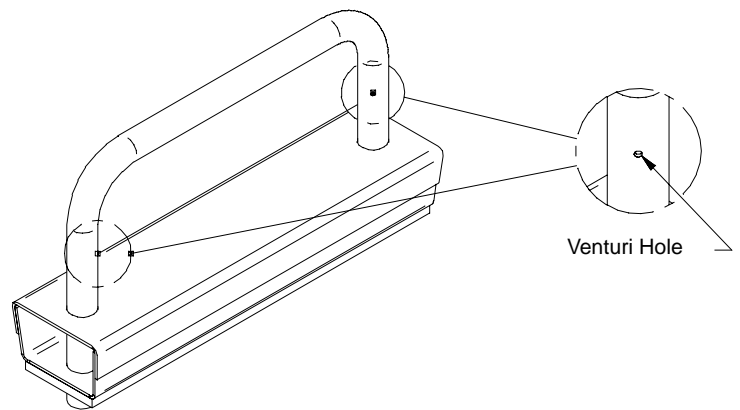

FIGURE 12 - Ensure that the Venturi Holes are Facing the Firebox
- Ensure the Log Retainer is put back with the 2 venturi holes are facing into the firebox as per Figure 12.